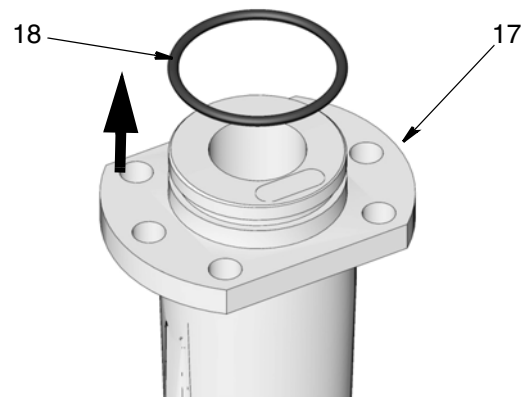

FIG. 53
- a. Use a pick to remove o-ring (18) from outlet (17) (FIG. 53).